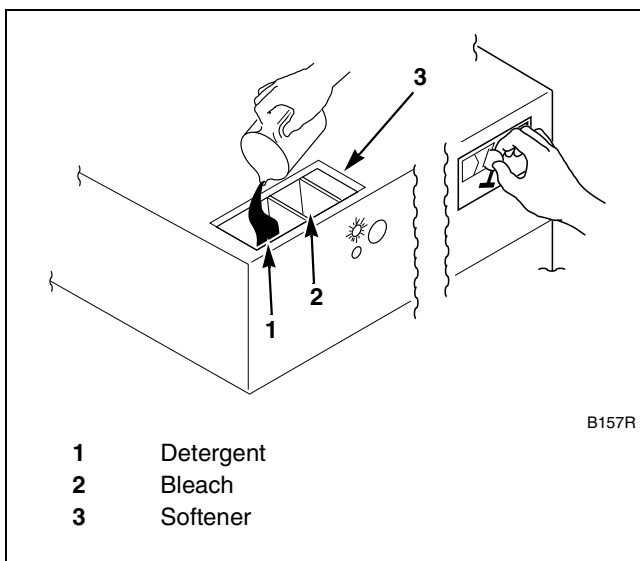

Figure 21
6. At start of cycle, add liquid and/or powder supplies to supply dispenser. Refer to *Figure 21*.
7. **For coin models:** Insert required number of coins to start machine. Refer to *Figure 21*.